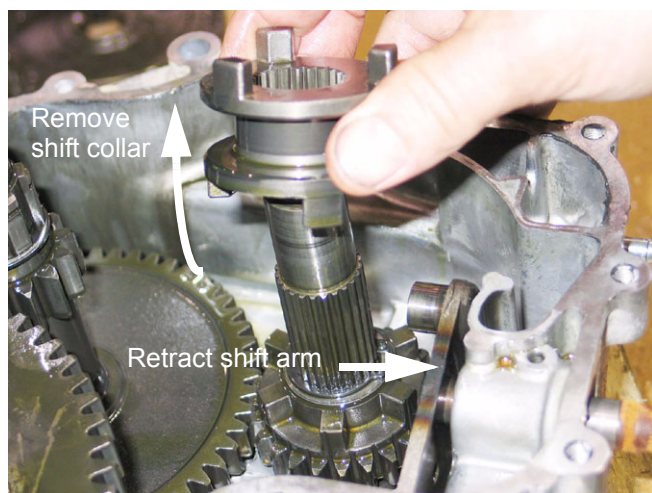

Figure 9.42
9.42. When the pin is clear of the groove, lift the shift collar off of the input shaft. See Figure 9.42.